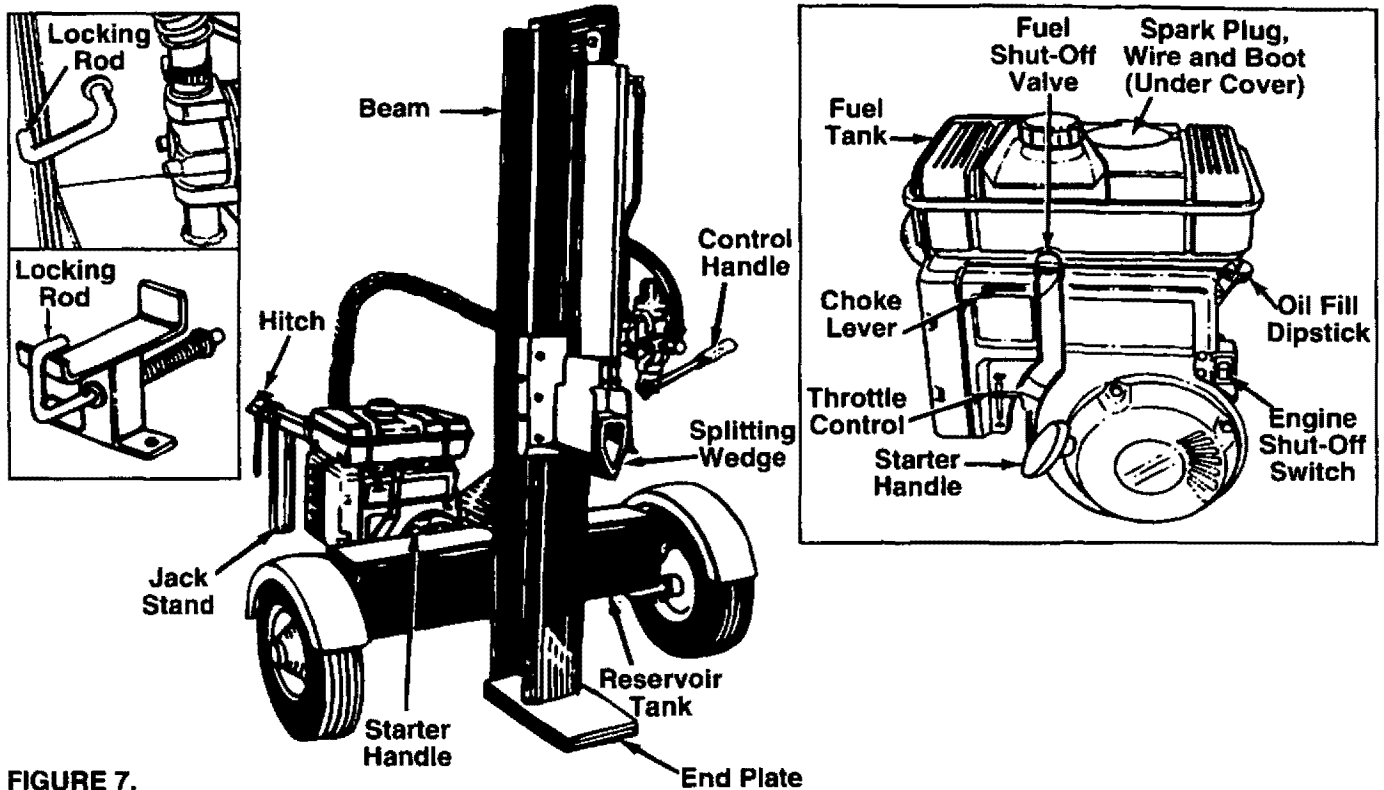

FIGURE 7.
### OPERATING CONTROLS (See figure 7)
- Move engine shut-off switch to OFF position. See figure 7.
- Place log splitter on a firm, level surface. To raise the beam for vertical operation, pull the locking rod on the tongue out and pivot it down to release the beam. Place the beam in the vertical position. Secure it with the locking rod on the reservoir tank assembly. See figure 7.
- Place log splitter on a firm, level surface. For vertical operation, pull the locking rod out and pivot it down to release the beam. Place the beam in the vertical position. See figure 7.